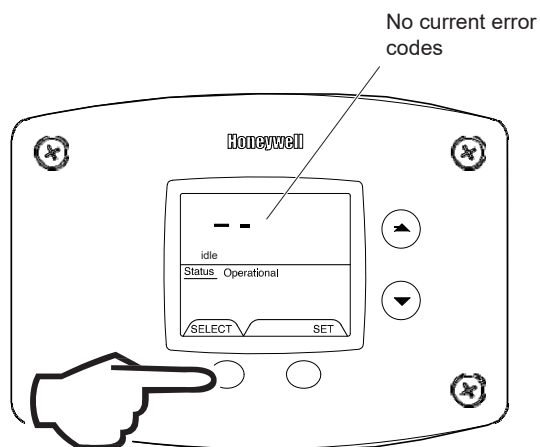

Fig. 50
8. Error Code History (Displays if there are present error codes or up to 10 previous error codes). Water Heater Display will show -- if there are no error codes (Fig. 50).